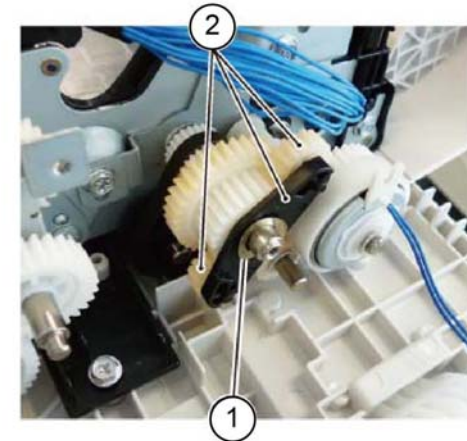

Figure 2 Idler gear bracket removal
7. Remove the idler gear bracket, Figure 2:
- a. Remove the washer (1).
- b. Remove two gears, then the idler gear bracket (2).